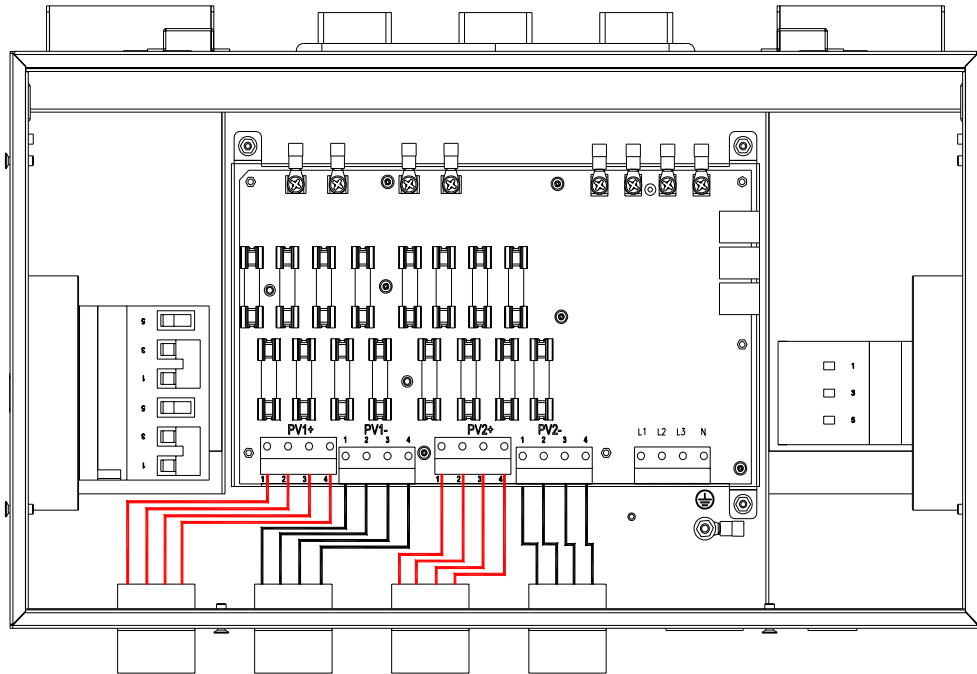

Figure 3-12 Diagram for wire connection of DC input
- (d) The order of wire connection from left to right is PV1-, PV1+, PV2-, PV2+. Connect the PV1- and PV2- to the corresponding fuse socket of the negative pole and connect the PV1+ and PV2+ to the corresponding fuse socket of the positive pole with M5×12 bolts (4 PCS in total) as shown in Figure 3-12: